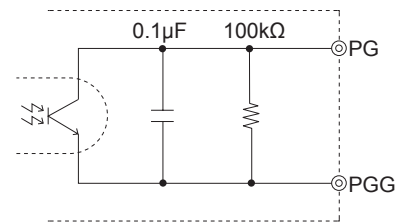

Fig.3.9 Internal circuit of PG
■PG circuit is designed as shown in Fig.3.9. Sink current of PG is 15mA max.